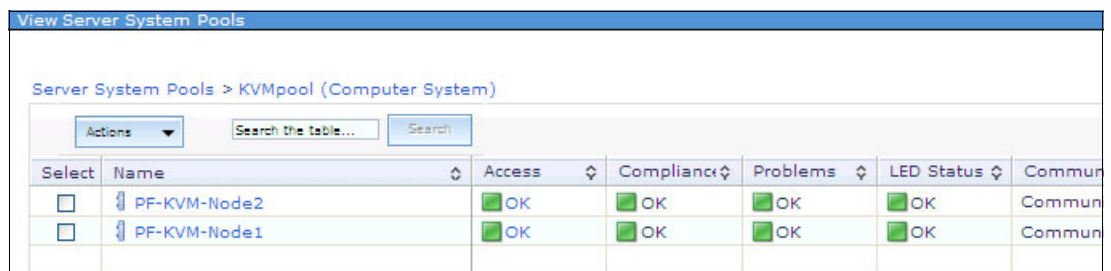

Figure 9-111 KVM server system pool
7. Go back to **Server system pools** view and click your KVM pool. You can see now that you have an additional KVM host in your server system pool as shown in Figure 9-111.